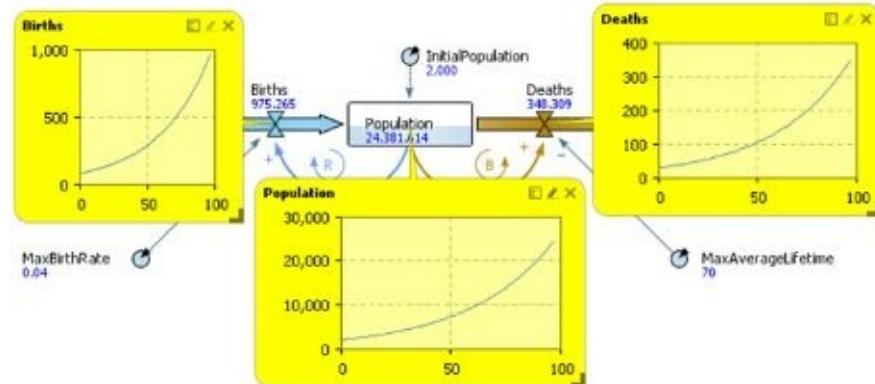

Figure 5.11 You can view the time plot of a dynamic variable in the **Inspect** window
14. Do the same for the *Population* stock and the *Deaths* flow. Watch the dynamics of the model until the time is approximately 100 years, then click the **Pause** button. The picture looks like that shown in Figure 5.11.